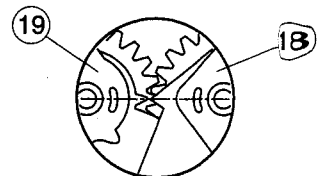

Fig. 2-7-12(b)
- 1) Return the guide pole fully to the unloading position, and attach the assemblies by reversing the removal procedures. When attaching, place the alignment markings of the two gears so that they face each other. (See Fig. 2-7-12(b).)